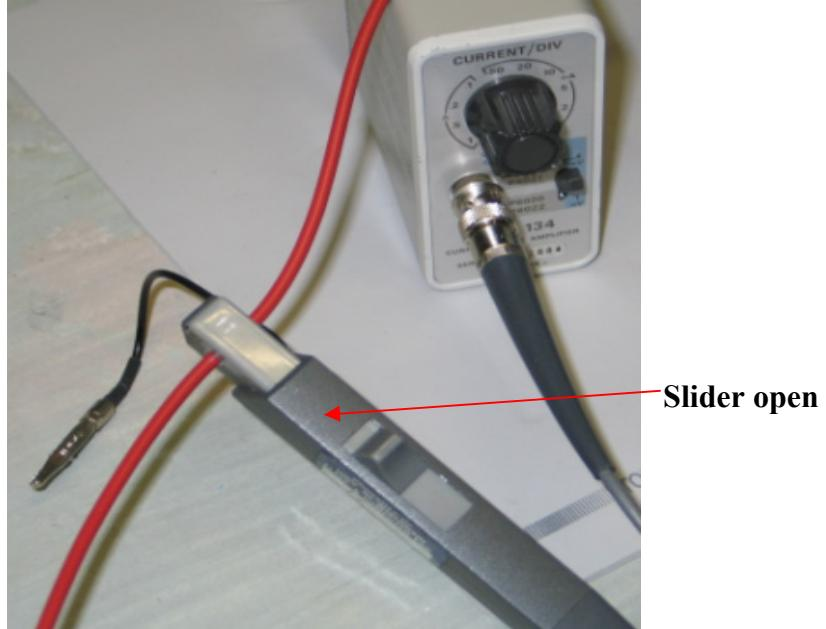

Figure 5: Probe slider around the conductor under test
- 4) The thumb-controlled probe slider opens the transformer core located in the end of the probe and closes it around the conductor under test (see Figure 5).